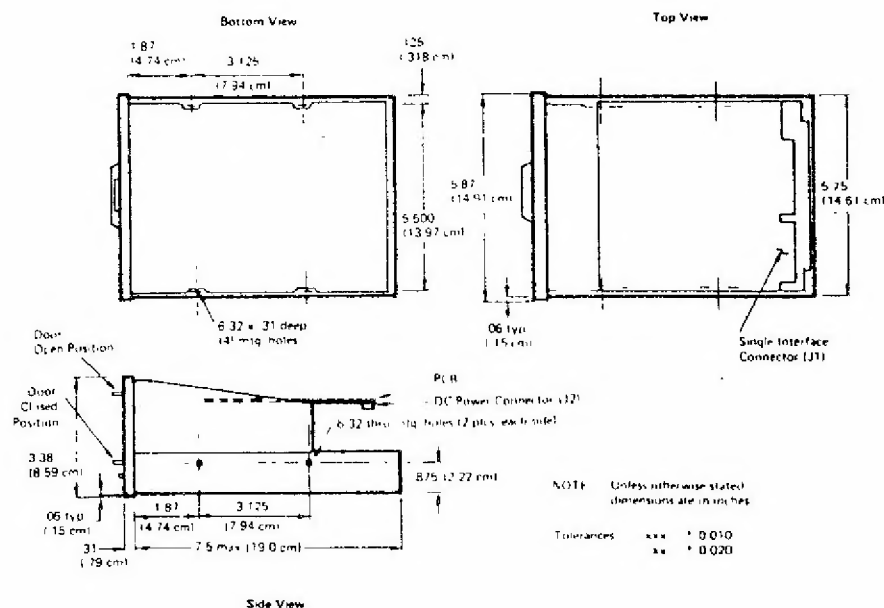

Figure 1-1 Outline and Mounting Dimensions
2.3 Installation. Due to its small size and light weight, Model 51/52 can be installed or mounted in any convenient location or position. However, the drive must be installed in a location that will prevent the I/O cable from exceeding 10 feet in length. Refer to Figure 1-1 for dimensions and mounting provisions.